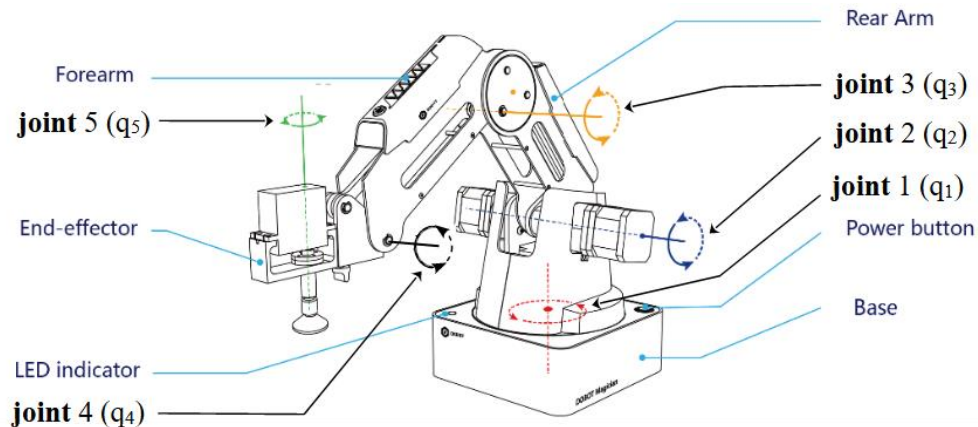

Figure 1: Description of the robot arm equipped with a suction cup.
The (uncontrolled) value $\theta_4(t)$ of joint 4 is such that the mounting support of the tool is always positioned horizontally (as illustrated in Figures 1, 2 and 3), *i.e.*:
- **To start the robot:** position the arm and forearm of the robot so that there is an angle of about 45° between them, then press the **power** button located on the base of the robot. After about 7 seconds, a beep is emitted and the LED indicator, located on the base as shown in Figure 1, changes from yellow to green indicating that the arm is operational.